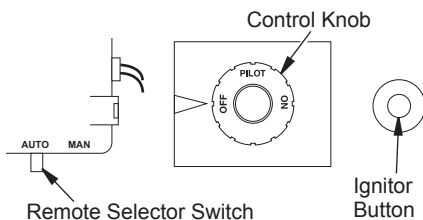

Figure 26 - Remote Selector Switch, Control Knob and Ignitor Button
4. Set remote selector switch in the AUTO position (see Figure 26).
5. Press in and turn control knob clockwise ↻ to the OFF position (see Figure 26).
6. Wait five (5) minutes to clear out any gas. Then smell for gas, including near the floor. If you smell gas, STOP! Follow "B" in the safety information, page 17. If you don't smell gas, go to the next step.
7. Press in and turn control knob counter-clockwise ↺ to the PILOT position. Press in control knob for five (5) seconds (see Figure 26).
Press on/off key on remote control and turn control knob clockwise to the OFF position (see Figure 26, page 18).
1. Turn control knob clockwise to the ON position (see Figure 26, page 18).